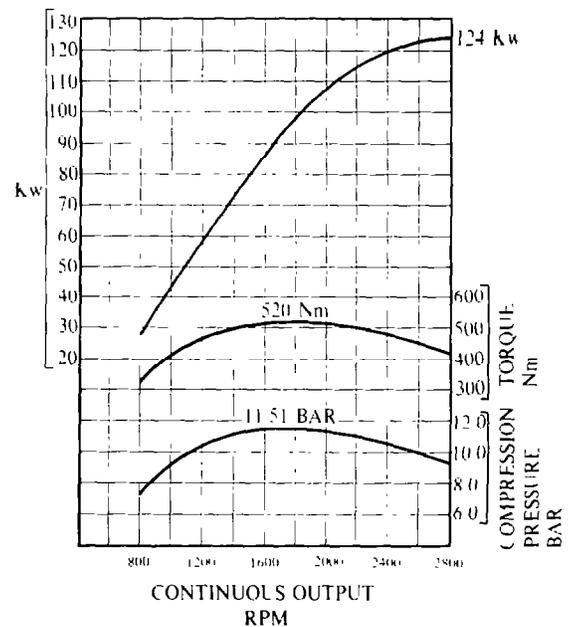

Figure 10a Engine Performance Graph
- q. Using an absorption unit coupled to the engine, carry out a dynamometer test. Check that the results conform to those in the performance graph (see Fig 10a).